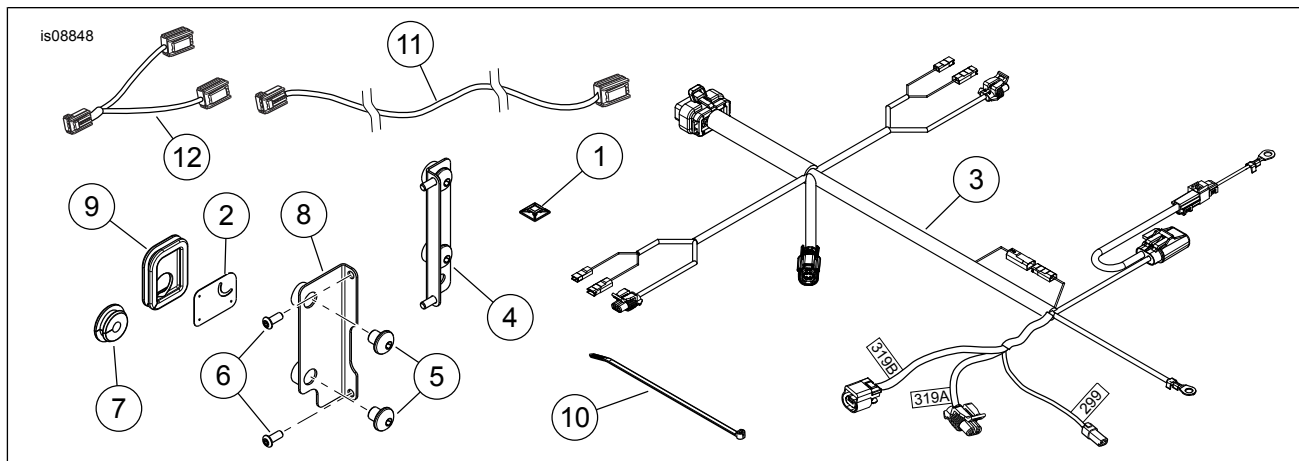

Figure 7. Service Parts, Tour-Pak Speaker Installation Kit
See Figure 7 and Table 1.
3. Use a step drill to create a new 25.4 mm (1.0 in) hole (2) the speaker pod (3). This hole is used for the new harness.
5. See Figure 7. Attach brackets (4 and 8) to amplifier (amplifier sold separately). Secure with screws (6). Tighten to 9.4–12.2 N·m (7–9 ft-lbs).